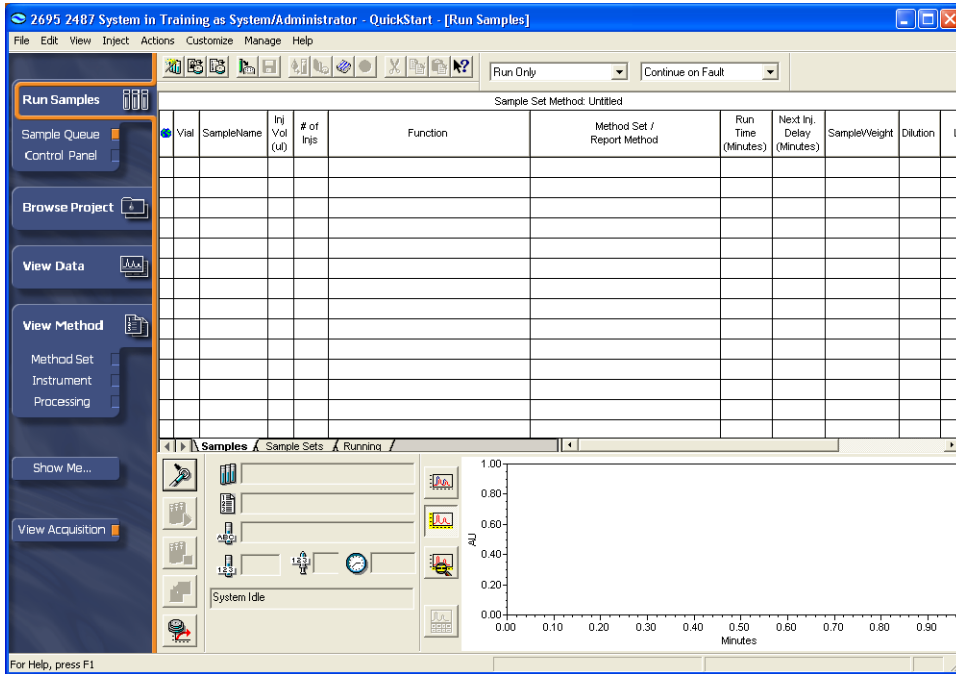

Figure 4-2 QuickStart Interface, Run Samples Window
2. From the Project list choose **Training**. (See Section 3.4, Creating a Project, to create the project if it does not appear.) From the Chromatographic Systems list choose **2695 2487 System**. (See Section 3.3, Creating a Chromatographic System, to create the system if it does not appear.) Click **OK**. The QuickStart interface appears (Figure 4-2).